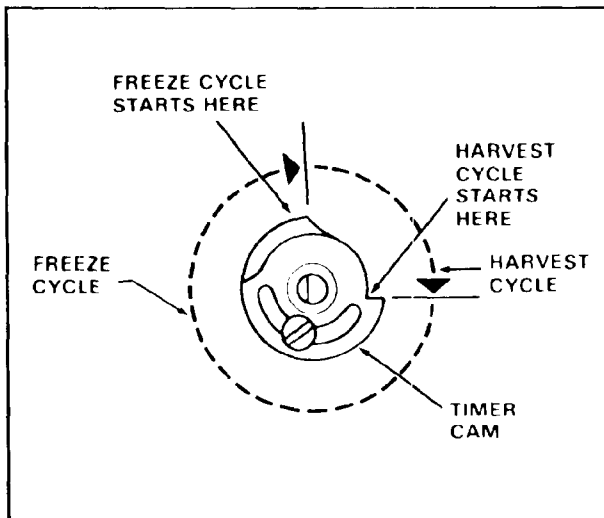

Figure 5-1. START Positions for the Freeze/Harvest Cycles.
7. At the end of twenty minutes, rotate the shaft of the Timer & Switch Assembly, CLOCKWISE, to start a second Harvest Cycle. See Figure 5-1.
3. Slowly rotate the shaft of the Timer & Switch Assembly, protruding through the hole in the front of the Control Box Cover, until you hear an audible click as the microswitch actuator arm drops into the cam slot, the START position of the Harvest Cycle, then stop. See Figure 5-1.